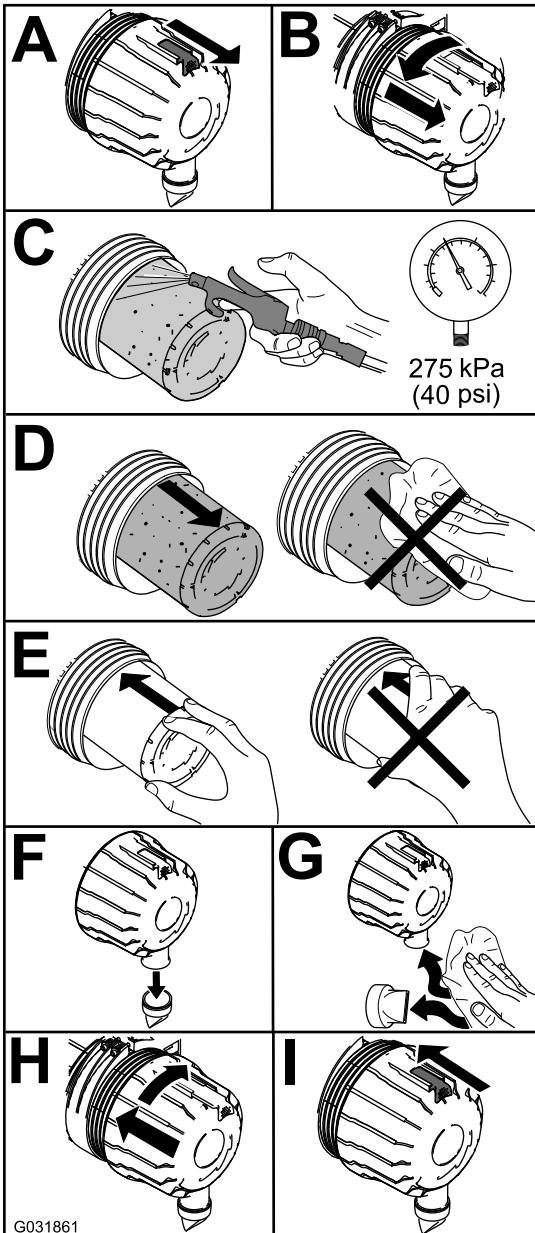

Figure 51
- Replace the air cleaner (Figure 51).